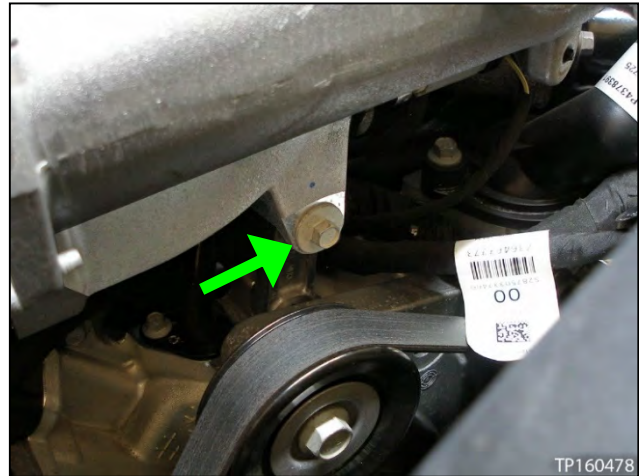

Figure 36
24. Remove the air intake connection bolt (see Figure 36).